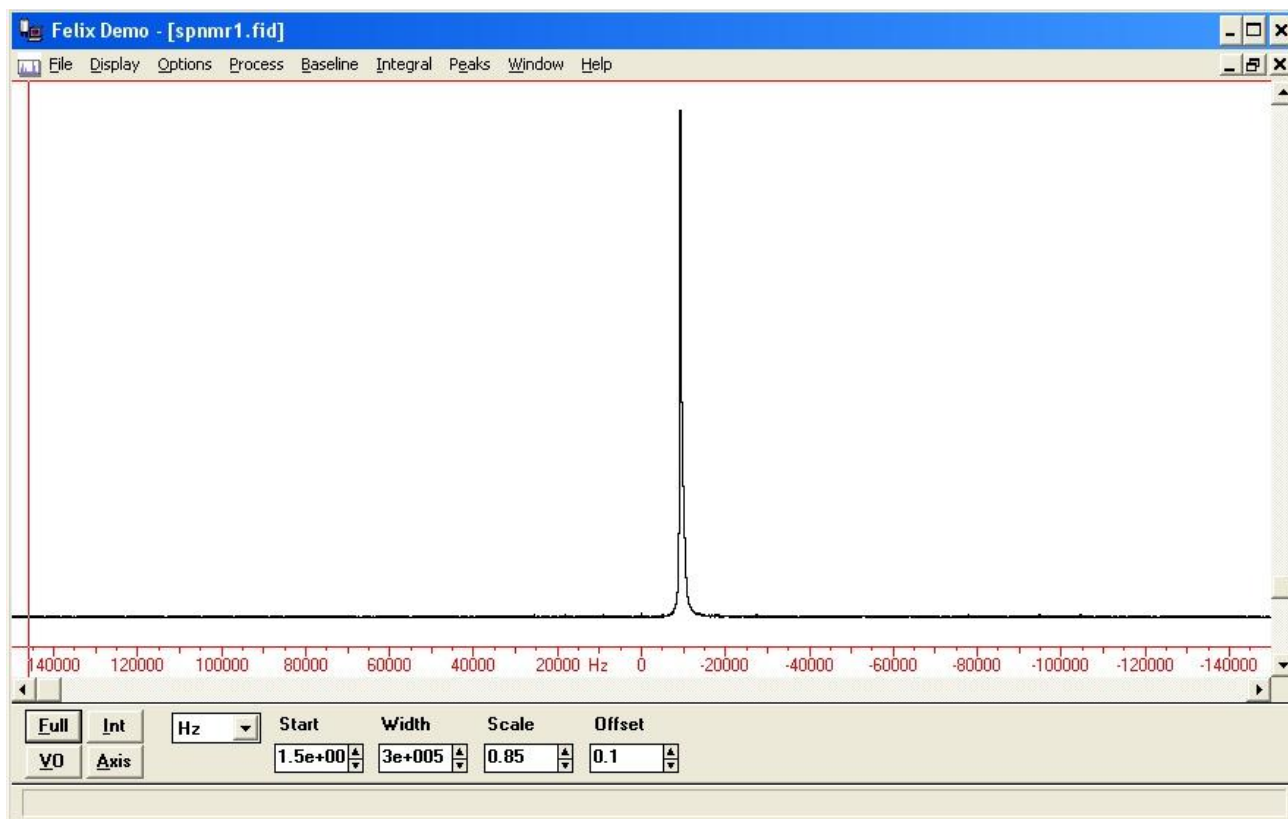

Figure 13: Typical NMR spectrum in a low-resolution low-field magnet. All parameters identical to the previous figure.
6. In most instances, you will also perform a Fourier transform on the resulting NMR signal. The FFT of the signal acquired in Figure 12 (previous page) is presented in Figure 13, below.